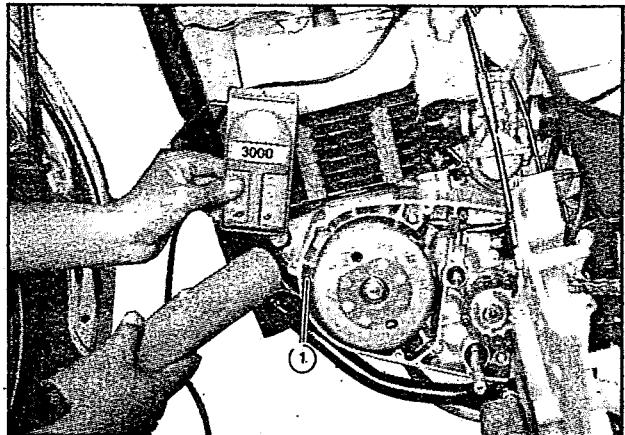
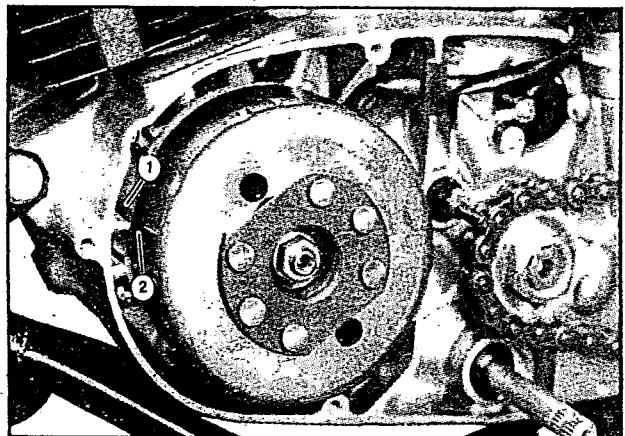

Fig 2.21
Fig 2.22
Start the engine. Aim the light from the timing light (fig 2.21) at the aligning mark (1) (fig 2.22) on the crankcase.
Raise the engine speed to 3000 rpm. At this time, the ignition timing is proper if the aligning mark (1) is aligned with the line (2) (fig 2.22) on the magneto rotor when the timing light flashes.